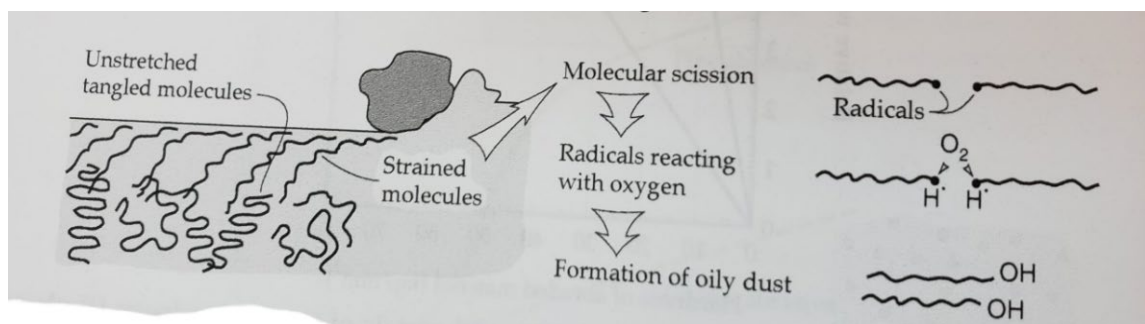

Figure 4 (b)
3. (a) Compare between bio-tribology, natural tribology and man-made tribology by giving **TWO (2)** examples of each phenomenon. **(20 marks)**
- (b) Sketch the four quadrants that shows the appropriate mapping of the coefficient of friction (COF) versus wear rate (W_r) for giving **ONE (1)** example for each application in the quadrant. Discuss on the optimized values of friction and wear rate in the daily applications mentioned beforehand. **(40 marks)**
- (c) With the help of the sketch on Stribeck curve, discussed the four phases of lambda (λ) that define the lubricants phases that applicable to the practices nowadays. List out the **FOUR (4)** type of lubrications in every day applications. **(40 marks)**
- (a) Describe **TWO (2)** main types of wear in industrial applications. **(10 marks)**
- (b) With the help of diagram in Figure 4 (b) on mechanisms of rubber wear, explain using your own words on the mechanisms involved.